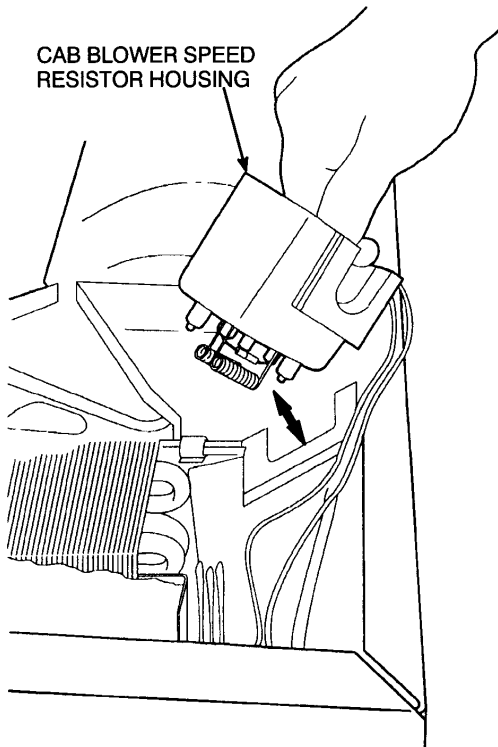

Figure 41 Blower Speed Resistor Housing Remove/Install
6. Slide the blower speed resistor housing up and out of the Blend-Air unit and lay it out of the way (Figure 41).
6. Slide the blower speed resistor housing back into the Blend-Air unit (Figure 41).
3. Slide the blower speed resistor housing up and out of the Blend-Air unit (Figure 41).
- Slide the resistor housing into its opening in the Blend-Air unit (Figure 41).